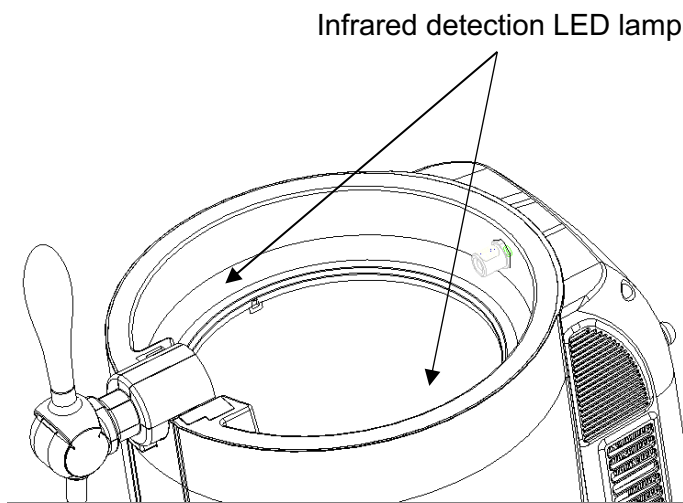

FIGURE 3
4. Check whether the infrared detection LED (As shown in Figure 3), on the left and right upper part of the inner side of the device's refrigeration barrel, is dirty or damaged. If the beer keg is not put into the refrigeration barrel or removed, the machine can not work normally, and the display panel displays the "OP" code.